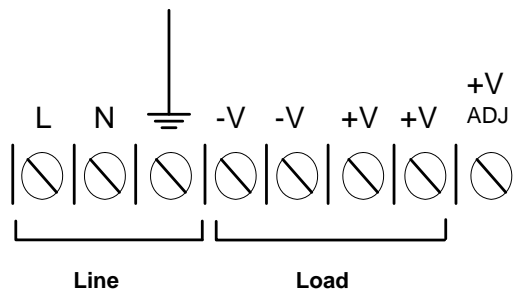

Figure 17. MD-990 Terminal Block Wiring
The power supply terminals are located at the bottom of the MD-990 external power supply as shown in Figure 17.
4. Connect the building power supply wires to the MD-990 line terminal screws as shown in Figure 17.